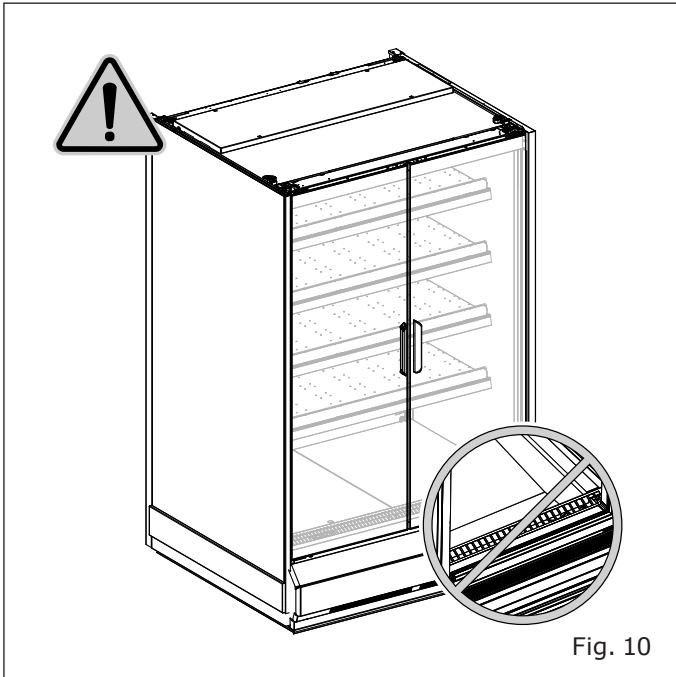

Fig. 10
- The goods do not obstruct the correct flow of refrigerated air ("Fig. 10")